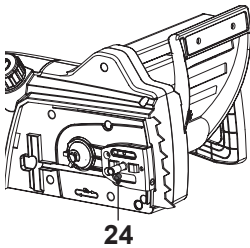

Fig. 3
- > Ensure the tension pin (24) is adjusted to far left position, turn the tension screw (3) anticlockwise if required (Figs. 3, 4).